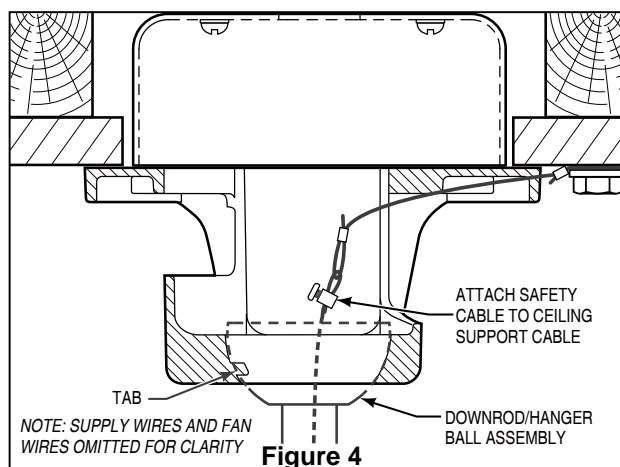

Figure 4
- 4. Slide downrod into the downrod support on top of the motor. Install the clevis pin by aligning the holes in the downrod support with holes in the downrod. Secure clevis pin with hairpin clip. Tighten the two set screws with nuts in the downrod support. (Figure 4)
- 4. Carefully lift the fan and seat the downrod/hanger ball assembly on the hanger bracket that was just attached to the outlet box. Be sure the groove in the ball is lined up with tab on the hanger bracket (Figure 4)
- 5. Attach the safety cable to ceiling support cable. Slide cable clamp onto safety cable (from fan). Place the end of cable through the loop of ceiling support cable. Pull as much cable through loop as possible. Feed end of cable into clamp hole and firmly tighten screw (Figure 4).